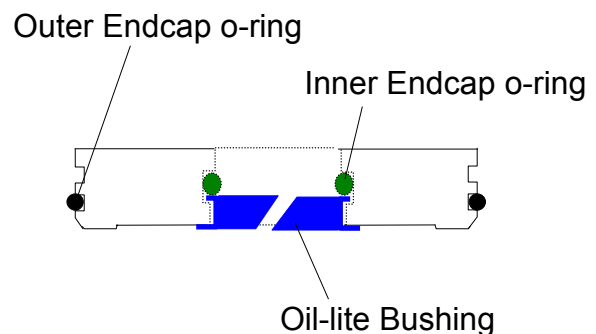

Figure 4
9. Install one inner endcap O-ring as shown in Figure 4.